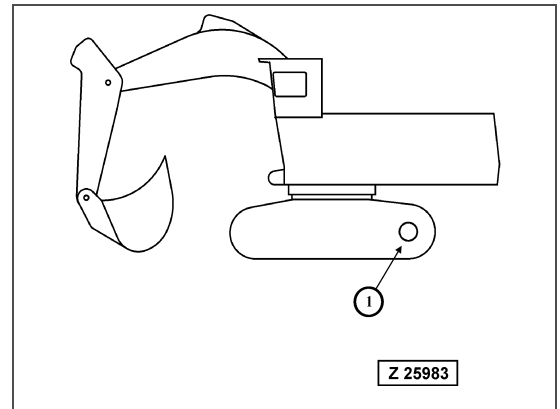

Fig. 2-21
- Before travelling, set the machine so that sprocket (1) is behind the operator's seat (Fig. 2-21).
- If sprocket (1) is in front of the operator's cab, the machine moves in the opposite direction from the operation of the pedals (front and rear travel is reversed, left and right steering is reversed). Be extremely careful when operating the machine in this situation.